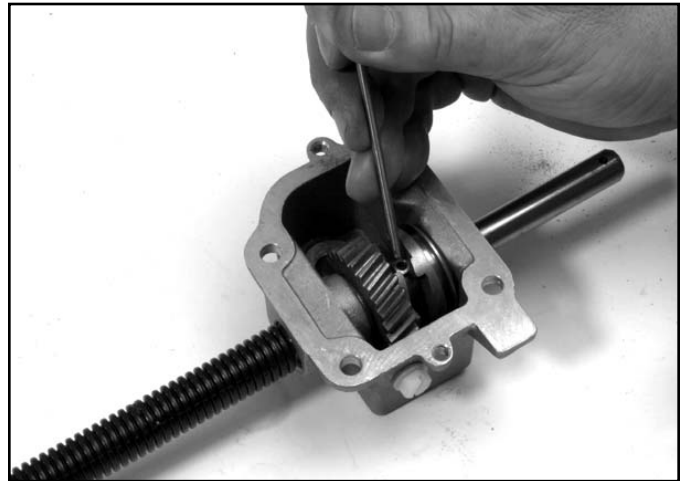

Fig 017
3. **Note:** Some replacement axles have more than one hole that can be used to pin the sleeve to the axle. Refer to the original axle to identify the correct hole to use. Then drive a roll pin through the sleeve and axle (Fig. 017).